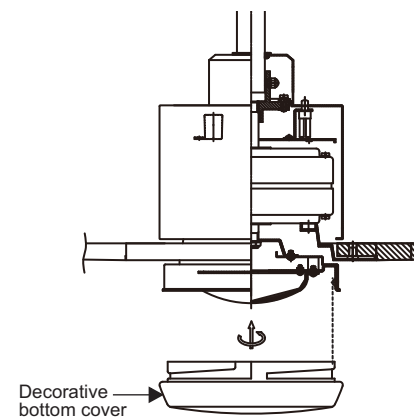

Fig. 19
**NOTE:** If you do not plan to install the LED light kit with your fan at this time, don't make the wire connections. Raise the decorative bottom cover against the LED light kit and turn clockwise until snug, DO NOT OVERTIGHTEN. (Fig. 19)